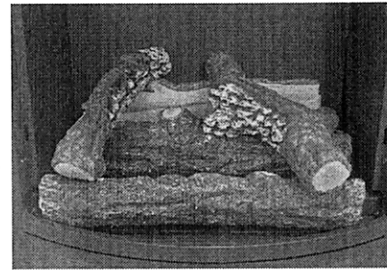

Figure 9
- Insert the pinhole on the upper side of log 5 into the pin on the right side of log 1. Place the lower part on the flat roof at the right side of log 3 (Figure 9).